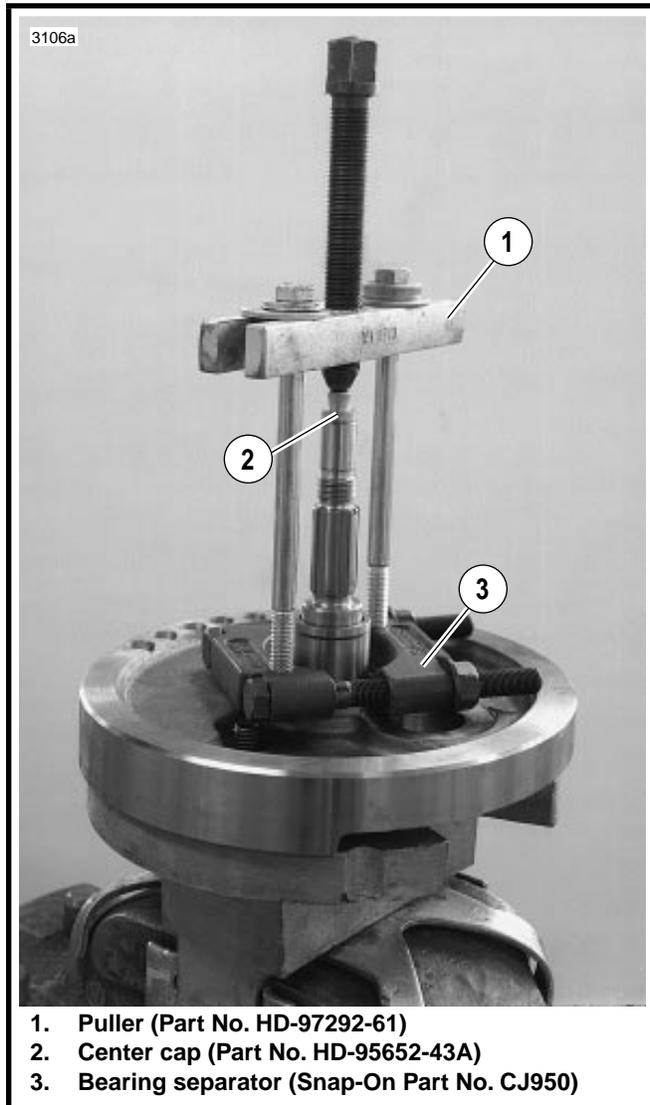

Figure 3-75. Pulling Pinion Shaft Inner Race
See Figure 3-75. To remove pinion shaft inner race, use **TWO CLAW PULLER (Part No. HD-97292-61)**, **CENTER CAP (Part HD-95652-43A)**, and **BEARING SEPARATOR (SNAP-ON TOOLS Stock No. CJ950)**. Apply heat to race to aid removal. Four sizes of pinion bearings are available. Pinion bearing selection at the factory, during engine rebuild, or replacement of crankcase set or flywheel assembly is based on the largest measured outside diameter (OD) of the inner race and the smallest measured inside diameter (ID) of the outer race (crankcase bushing). A running clearance of 0.0002-0.0008 in. (0.005-0.020 mm) is established during crankcase set or flywheel assembly replacement and engine rebuild.
- See Figure 3-75. Pull inner race from pinion shaft using TWO CLAW PULLER \(Part No. HD-97292-61\), CENTER CAP \(Part No. HD-95652-43A\), and BEARING SEPARATOR \(SNAP-ON TOOLS Stock No. CJ950\). Apply heat to race to aid removal.